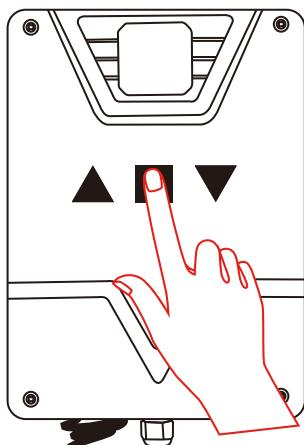

Figure 12
Step 2. Press and hold the “**Stop**” button for about 6s until the buzzer sounds 2 beeps, then release the button right now. Within 1.5s, Press “**Stop**” button **again**, the buzzer sounds 1 long beep and trigger the learning of opened/closed in position. You need to complete the setting operation within 99s. Fig 12